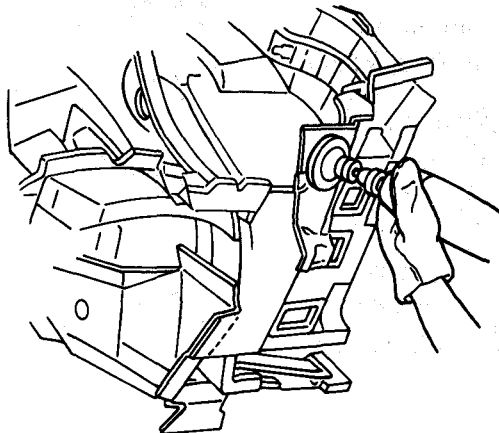

Figure 3-13.
- 2 Clean sealer away from mating surfaces, as necessary (Figure 3-13).